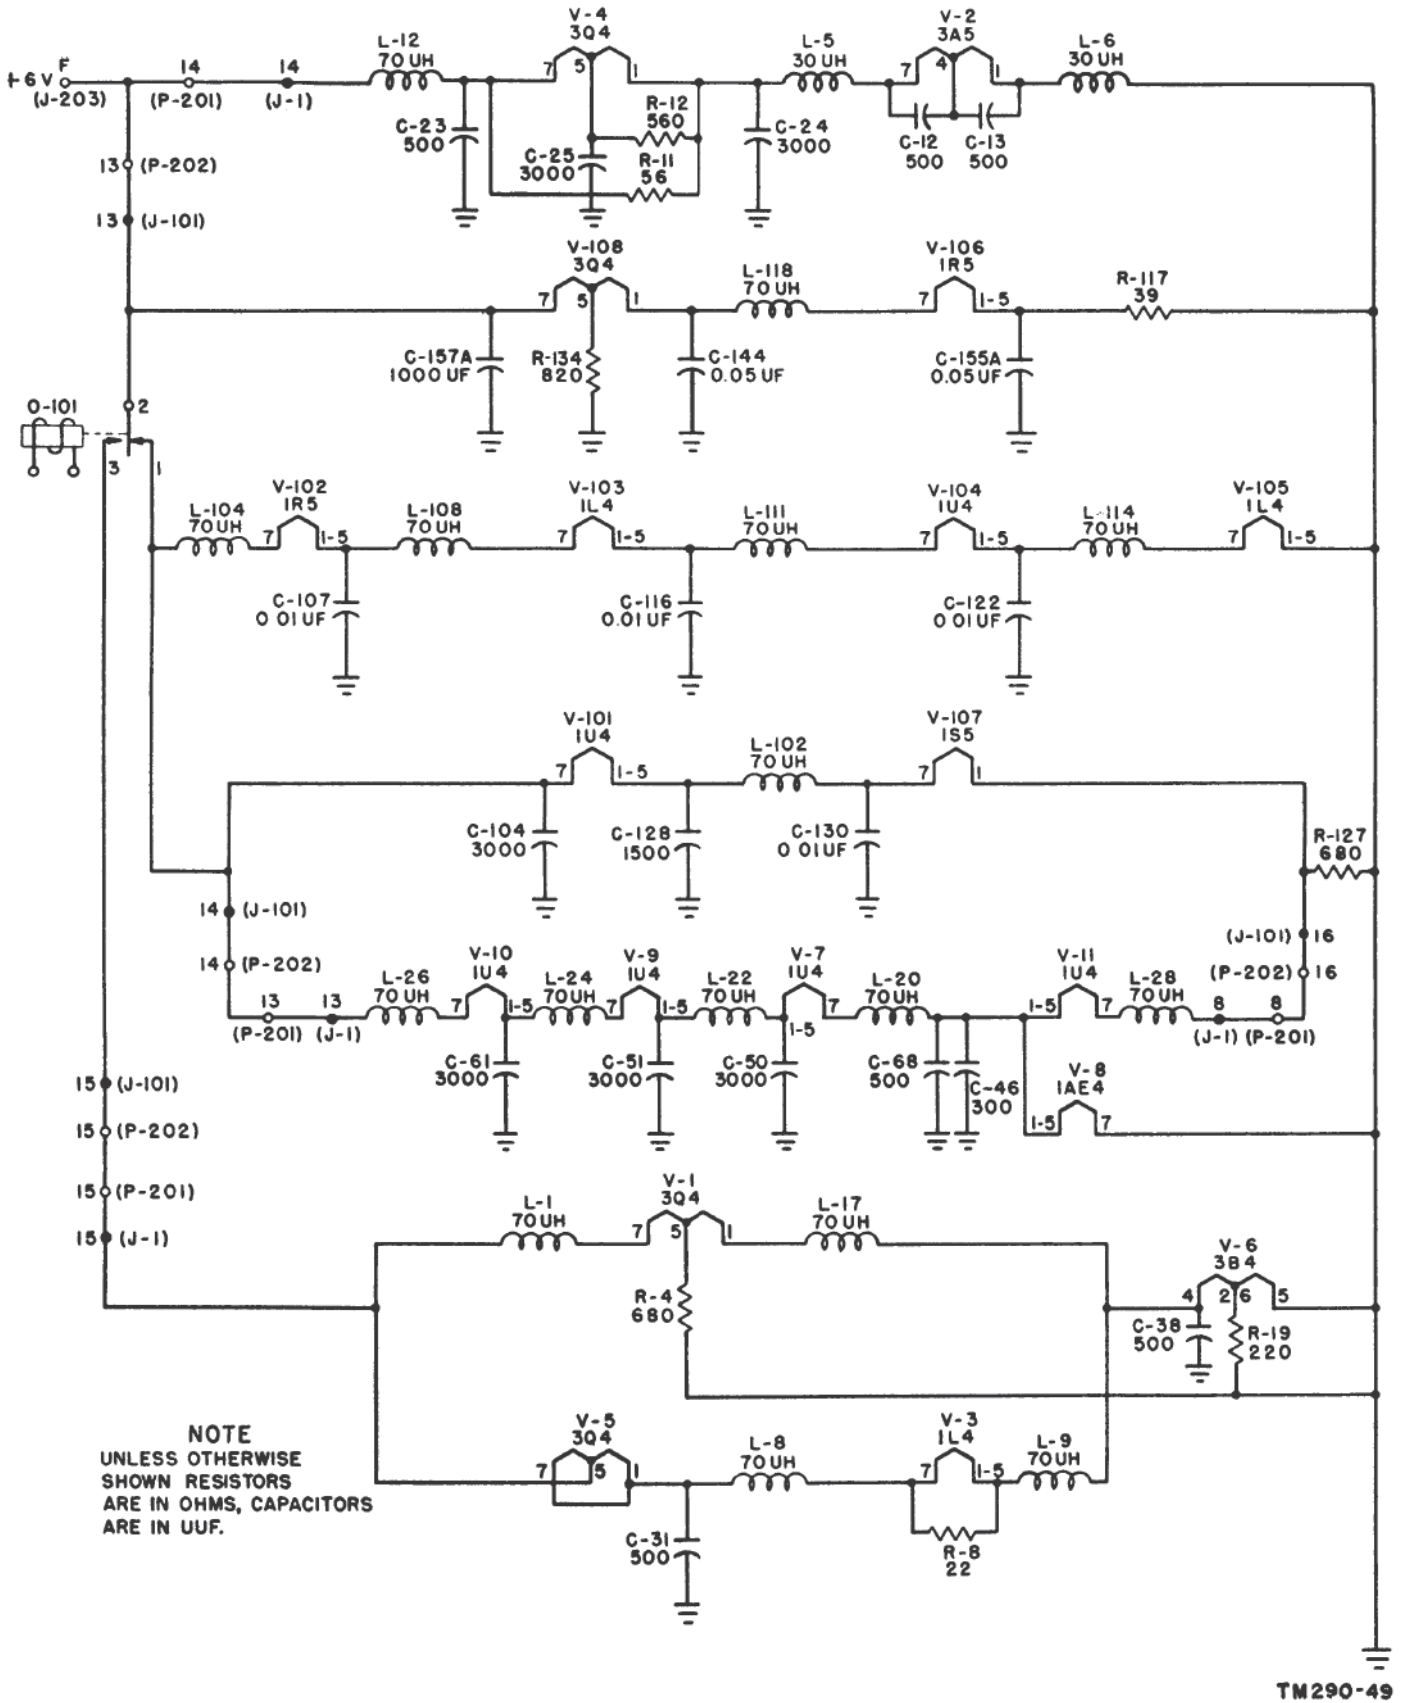

Figure 32. Receiver-Transmitter RT-70/GRC, filament circuits, functional diagram.
(figs. 32 and 33)
- (1) One group includes all filaments which are energized by direct connection to the filament supply lead, terminal F of J203. The 32- to 43.4-mc oscillator tube, V2, and transmitter mixer tube V4 on the RF chassis, and audio amplifier tubes V106 and V108 on the IF chassis belong in this group.
- (2) A second group of filaments includes those tubes which are energized over the normally closed contacts of relay O 101. Calibrate oscillator tube V7, receiver tubes V8 through V11 on the RF chassis receiver tubes V101 through V105, and squelch oscillator tube V107 on the IF chassis belong in this group. The calibrate oscillator, the squelch circuit, and all the receiver tubes except the audio amplifier tubes are turned off during transmission.
- (3) A third group of filaments includes those tubes which are energized when normally open contacts 2 and 3 of relay O 101 close when relay O 101 is energized. Transmitter tubes V1, V3, V5, and V6 belong in this group. Thus, all transmitter tubes, except the 32- to 43.4-mc oscillator and the transmitter mixer, are deenergized during reception.
b. In Receiver-Transmitter RT-70/GRC, the filaments in each group are arranged in several 6-volt series-parallel strings, as shown in figure 32. Isolating chokes and filter capacitors are used throughout to prevent RF currents in one stage from entering tubes in the same or associated strings. Voltage-dropping resistor R117 is inserted, in series